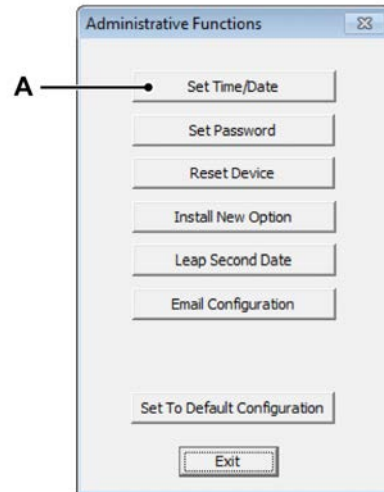

Figure C.26: Administrative Functions - GMR1000
- 9 Edit the date by clicking on the **Set Time/Date** button in the **Administrative Functions** dialog (see Figure C.26).